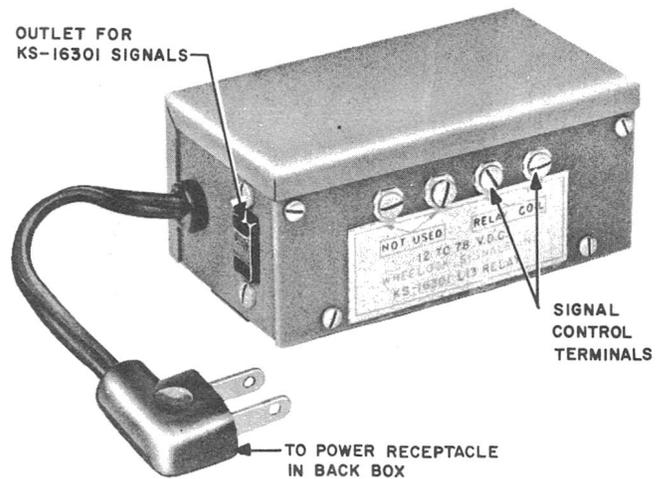

Fig. 11 - KS-16301, List 13 Relay
3.10 List 13, Relay, shown in Fig. 11, is designed to operate on 12 to 78 volts dc.